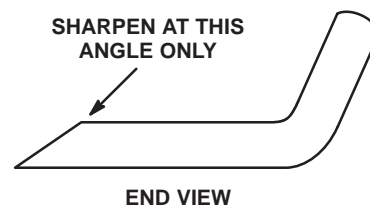

Figure 31
3. Examine the cutting edges of all blades. Sharpen the cutting edges if they are dull or nicked. Sharpen only the top side of the cutting edge and maintain the original cutting angle to ensure sharpness (Fig. 31). The blade will remain balanced if the same amount of metal is removed from both cutting edges.